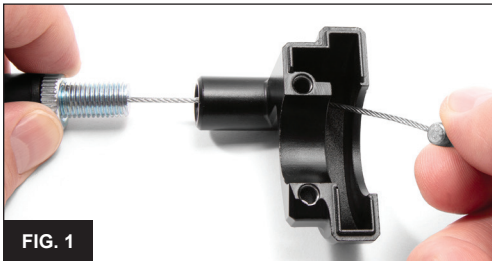
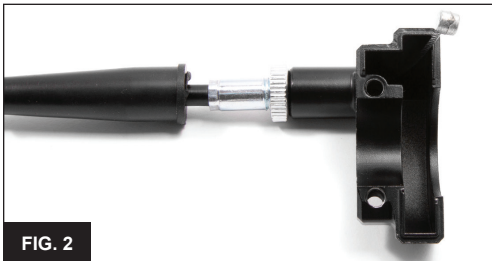

FIG. 1
FIG. 2
3. Remove the two 5 mm mounting screws from the housing (B and C). Separate the two housing halves and remove the throttle tube (A) and cable guide (D).
4. Insert the threaded fitting on the cable into the throttle housing and feed the inner wire into the housing (**Fig. 1**). Make sure the threaded free length adjuster is fully compressed (**Fig. 2**), this will give you the most inner wire free length and make assembly easier.